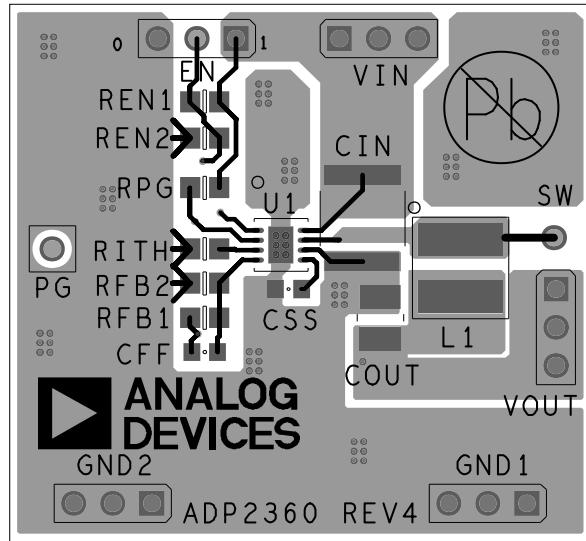

Figure 26. PCB Layout, Top
- Because up to 60 V may be present between the EPAD and device pins, the EPAD must be solder mask defined and reduced slightly in size to prevent the risk of bridging if the device is misaligned. To help ensure alignment during reflow processes, traces must exit the pads perpendicular to the device edge as shown in Figure 26. See the AN-772 Application Note, A Design and Manufacturing Guide for the Lead Frame Chip Scale Package \(LFCSP\), for further guidance on layout, footprint, and manufacturing.